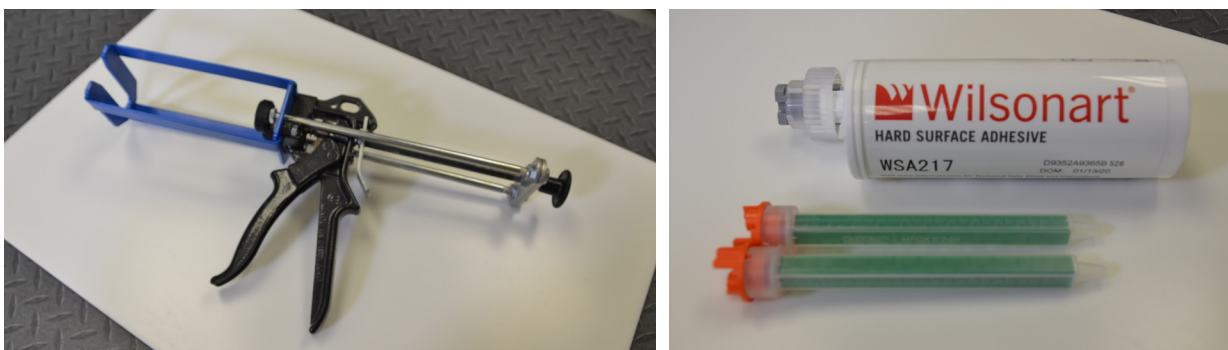

Figure 5A
- Wilsonart® Hard Surface Adhesive is for professional use only. Always follow the manufacturer's recommendations and instructions carefully. (FIG. 5A)